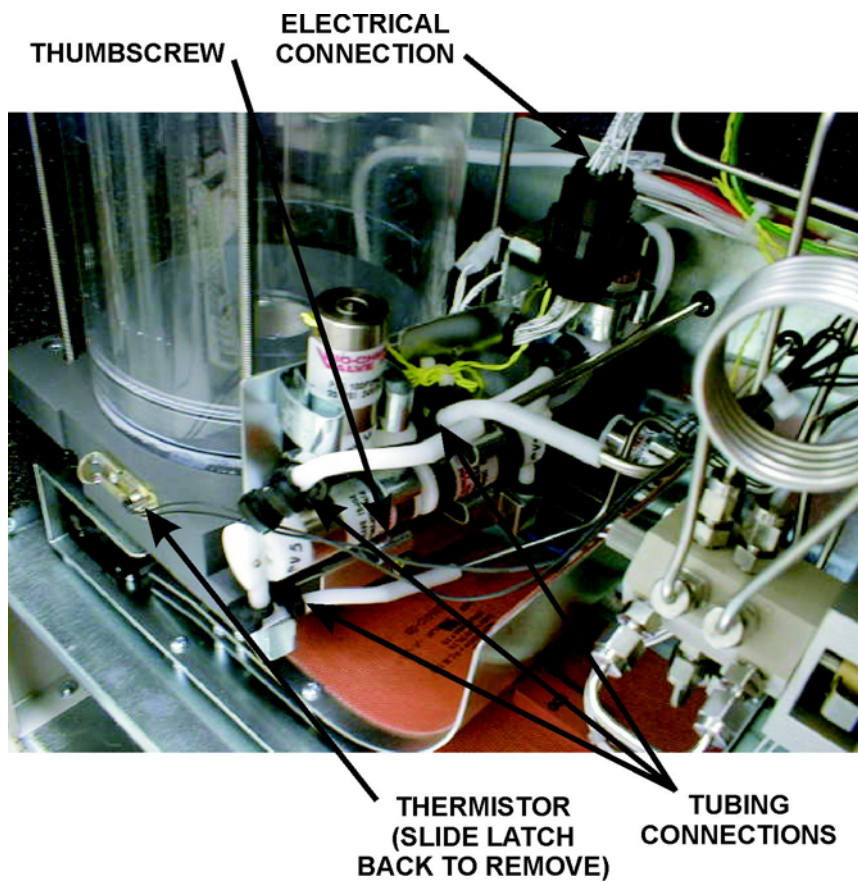

Figure 6-3
4. Mark, identify, and disconnect the tubing and pinch valve electrical connections to the ballast assembly, Figure 6-3, page 6-14.
8. Slide the Thermistor Latch towards the rear of the instrument and remove the Thermistor from the ballast, Figure 6-3, page 6-14.
10. Disconnect the exhaust gas connections at the base of the ballast assembly, Figure 6-3, page 6-14.